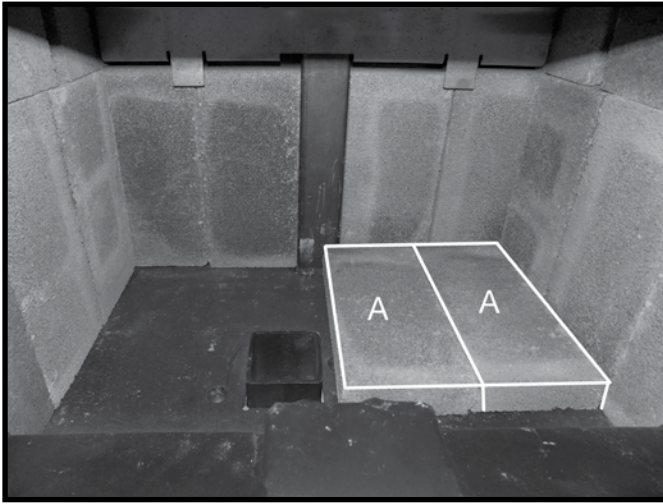

Figure 31: First two floor bricks in place.
8. Place two "A" firebricks on the firebox floor as shown in Figure 31.